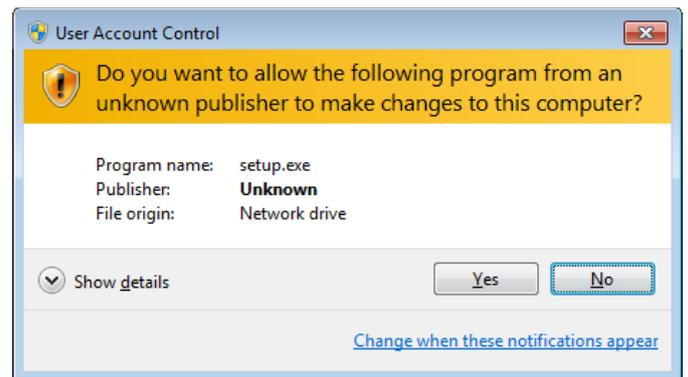

Figure 1.1 User Account Control
3. Accept to install the RD Manager software, figure 1.1